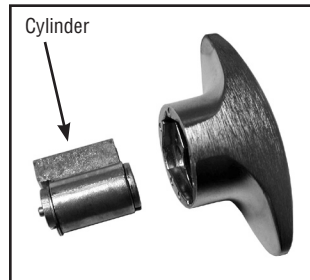

Figure 4
4. Remove the old cylinder. (Fig. 4)